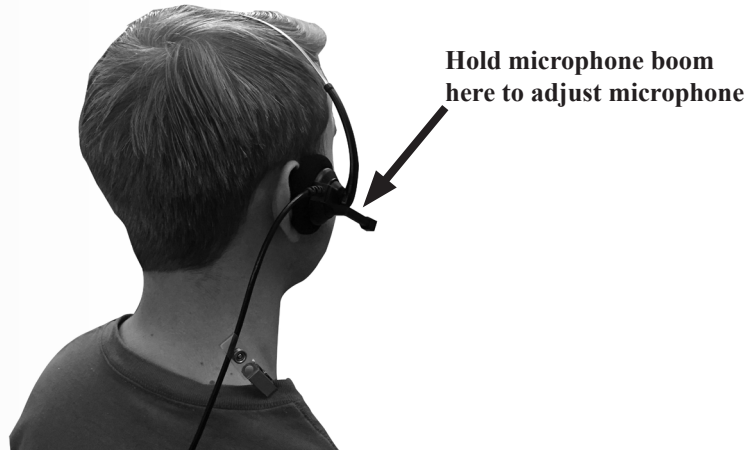

Figure 5. Correct wearing of the headset used with belt-pac
- Wear the headset with its cable behind your back and attach the clothing clips to your collar and shirt to keep the cable safely behind you, as shown in **Figure 5**.